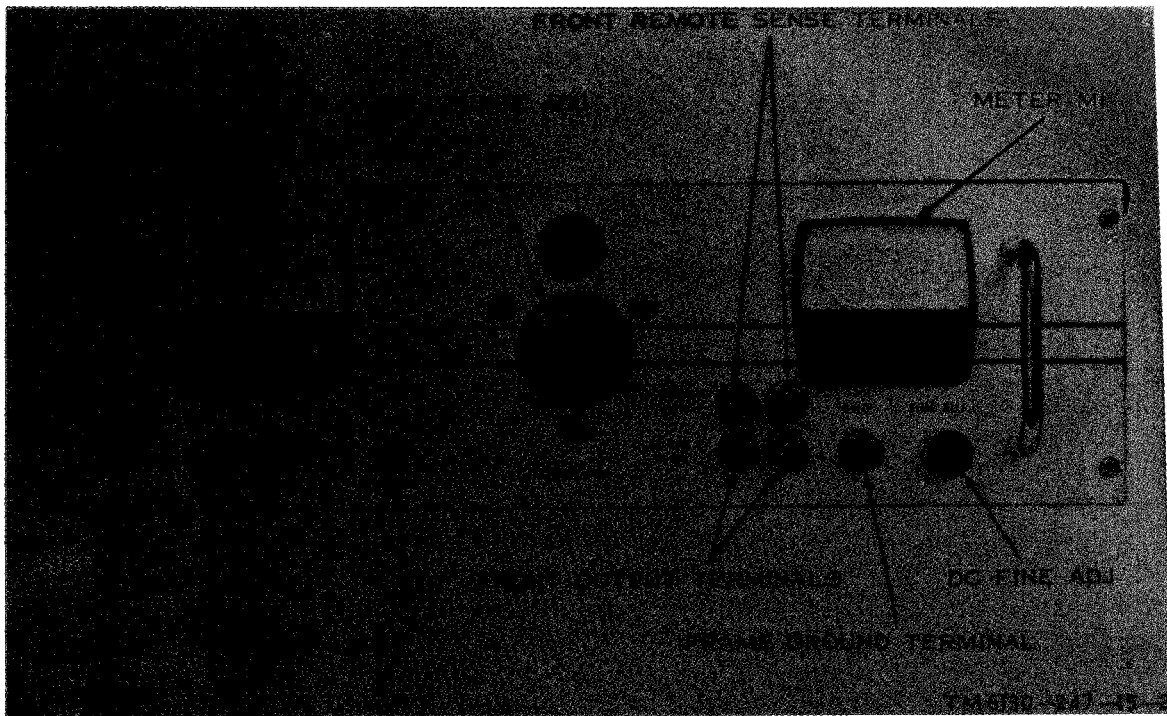

Figure 2-1. Power Supply PP-3940/G, controls and indicators.
*a.* POWER ON-OFF switch S1 should be OFF (fig. 2-1).
Initial adjustment of this equipment is accomplished by the COARSE ADJ. and FINE ADJ. front panel controls (fig. 2-1).